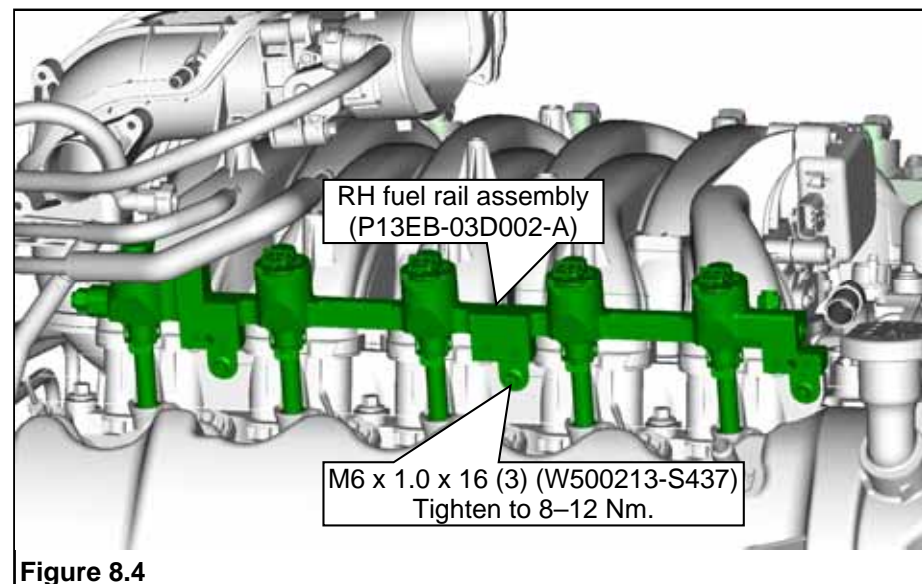

Figure 8.4
5. Position right hand fuel rail assembly onto passenger side of intake manifold and fully seat nozzles. Using three M6 x 1.0 x 16 bolts found in hardware kit P13FB-ENGKIT-A, secure fuel rail to intake manifold. Tighten bolts to 8–12 Nm. **Figure 8.4.**